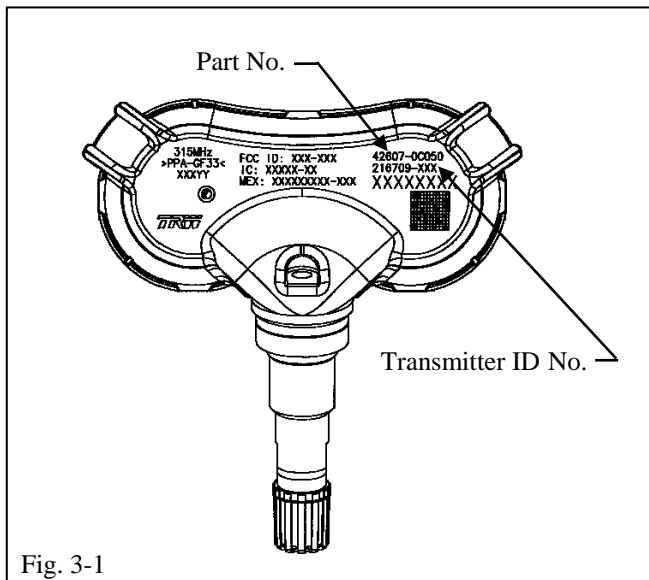

Fig. 3-1
- (e) Record TPMS Transmitter ID No. and verify that the number is copied accurately (for "Styled" steel wheel). (Fig. 3-1)